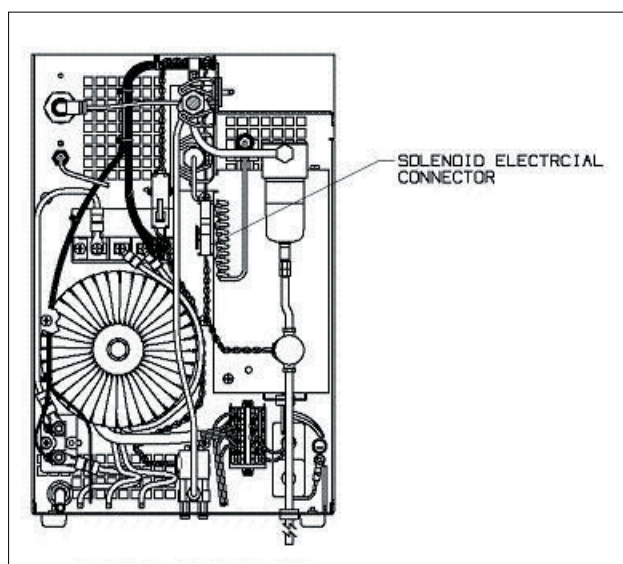

Figure 14 - View Toward Rear of Unit, Model FID-2500
- Disconnect solenoid valve connector (figure 14).